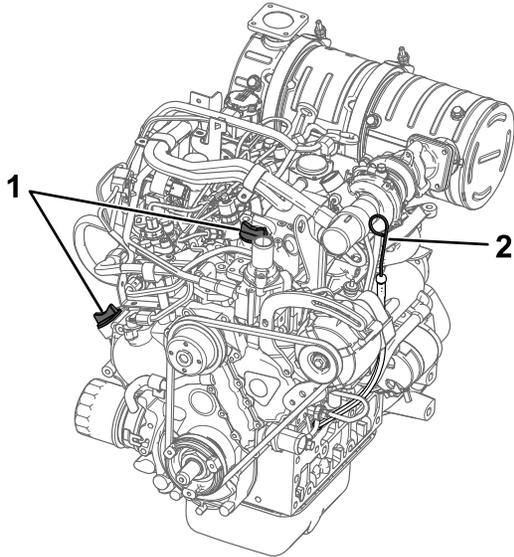

Figure 53
4. Clean the area around the oil dipstick and oil-fill cap (Figure 53).